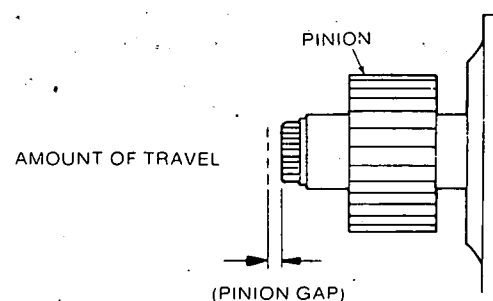

FIGURE 37h. PINION GAP ADJUSTMENT
3. Gently push pinion shaft back towards front bracket and measure the amount of travel (Figure 37h).